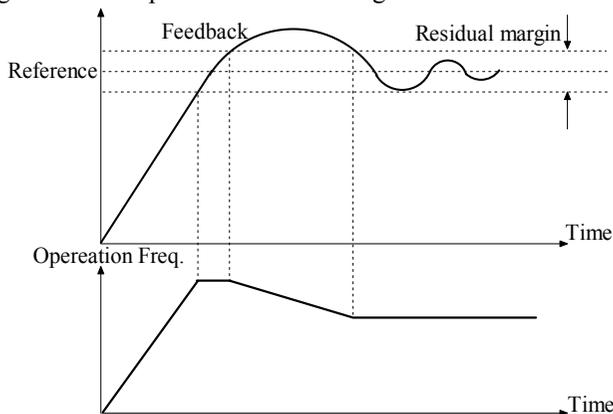

Fig. 5-7-1 Residual margin diagram
- ◆ If the residual between feed and feedback value is smaller than residual margin, PID regulation will stop and the PID output maintain constant. As shown in Fig. 5-7-1.
- ◆ If analog PID is selected, the setting of residual margin (P7.09) is the absolute value of physical value, and it must match the measuring range. If speed PID is selected, the setting of P7.09 is speed. As shown in Fig.5-7-1: